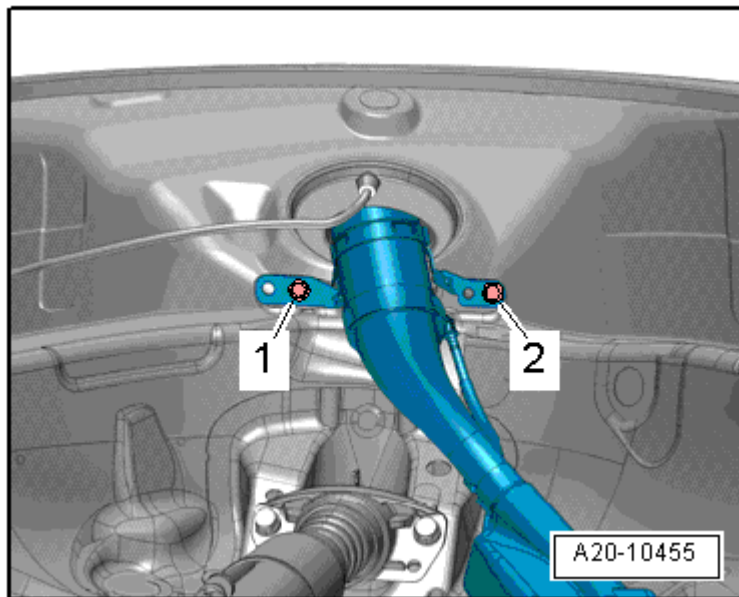

Fig. 7: Fuel Filler Tube Ground (GND) Connection
- For discharging electrostatic charge, refer to **Fig. 7**